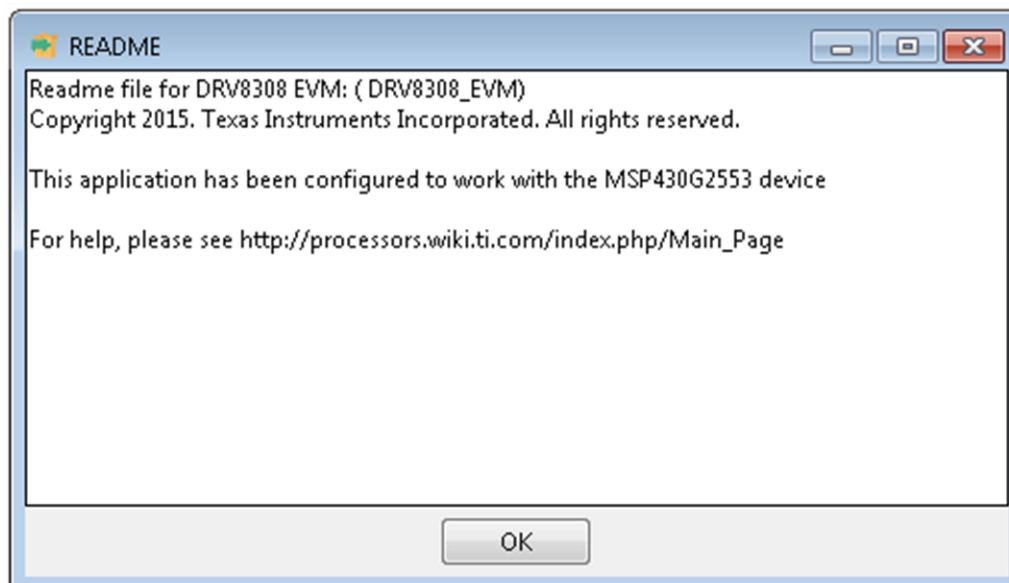

Figure 16. Readme Window
Step 11. After clicking the *Finish* button, a readme window (see Figure 16) appears, displaying the link for LV 2014 RTE.